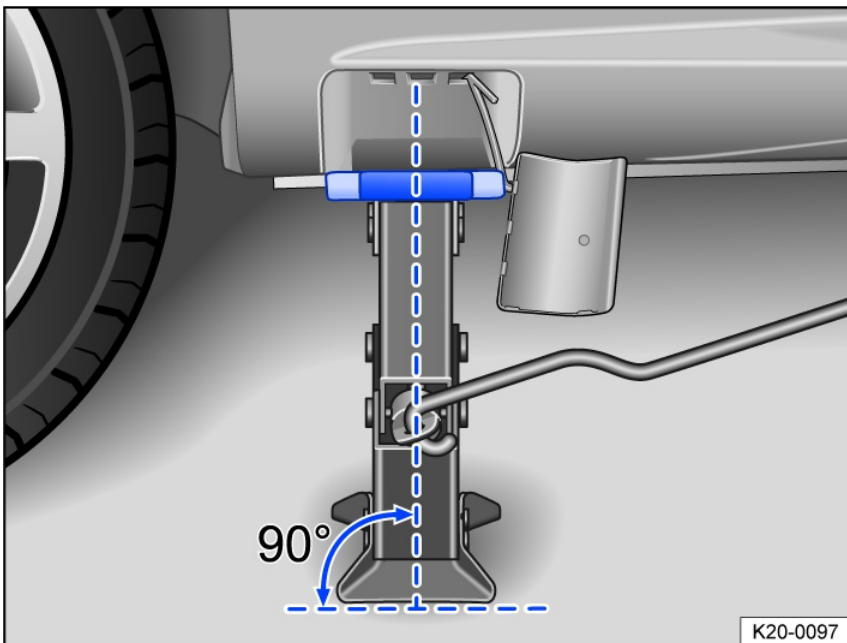
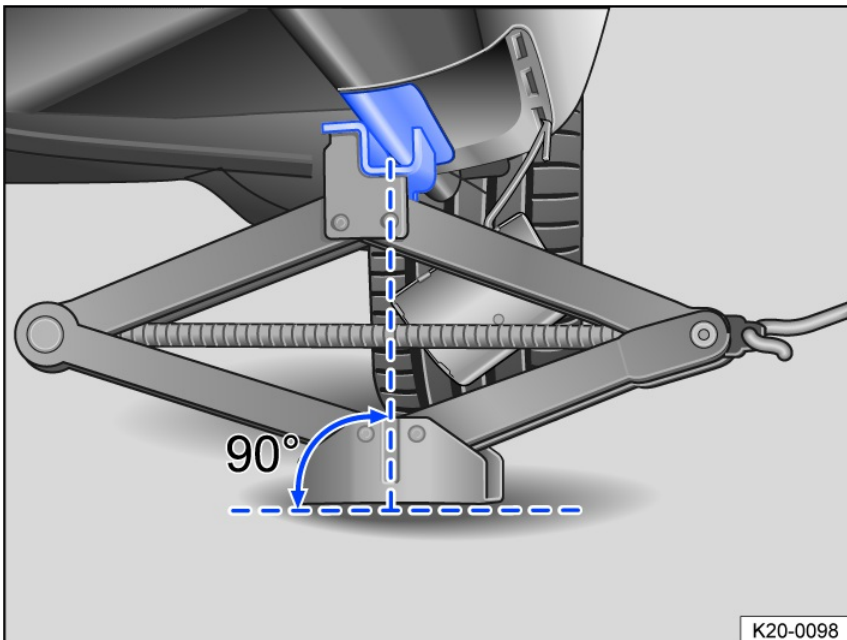

Fig. 195 Correct jack setup.
Fig. 196 Jack is positioned on the left side of the vehicle at the rear.
13. Make sure the entire base of the jack is seated securely on the ground and that the base of the jack is located exactly directly below the lift point fig. 193 and fig. 194 or fig. 195 and fig. 196.
14. Straighten out the vehicle jack and continue raising the bracket on the top of the jack until the bracket is positioned on the brace under the vehicle fig. 194 or fig. 196.
- Only place the vehicle jack at the lift points described. The bracket on the vehicle jack must firmly grip the sill fig. 194 or fig. 196.